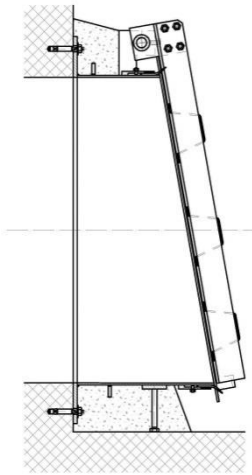

Fig. 6
- Align, level and fixate heavy Flap Valves with respective leveling screws (Fig.6).